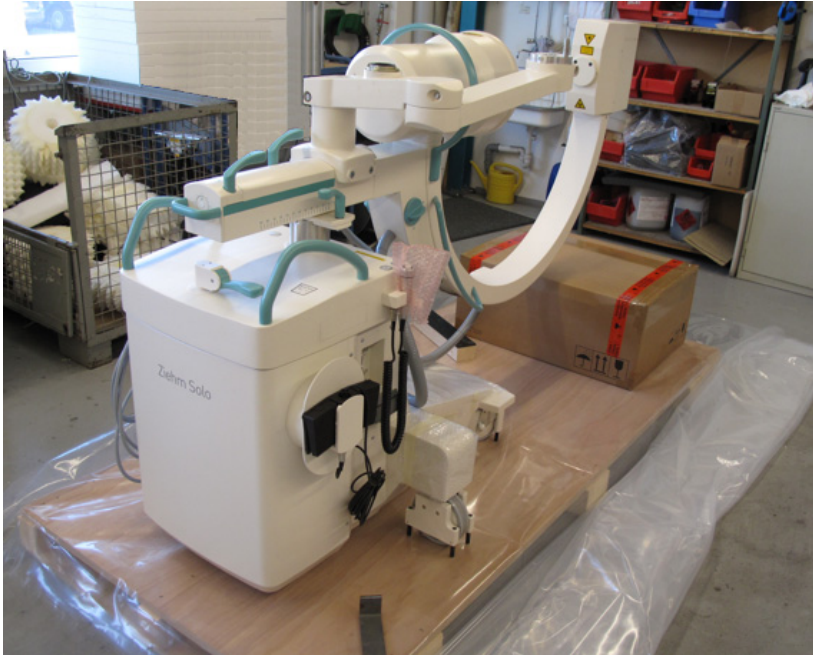

Fig. 13-4 Position of the C-arm on the pallet
- Position the C-arm stand as illustrated in *Fig. 13-4*.
- Position the C-arm as illustrated in *Fig. 13-4*.